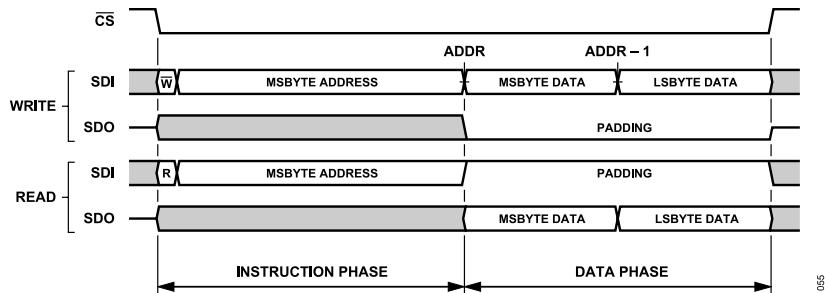
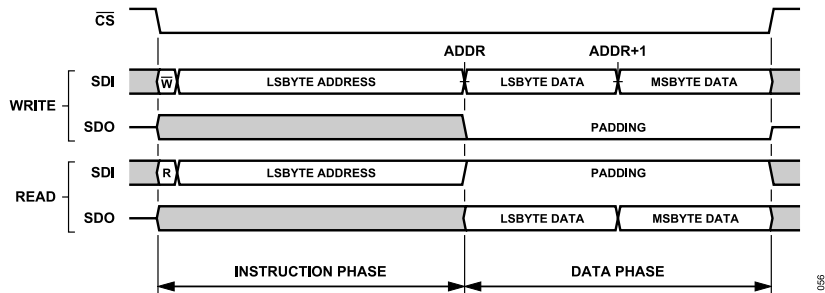

Figure 57. Single Instruction Format, ADDR\_ASCENSION = 0 (Descend), STRICT\_REGISTER\_ACCESS = 1 (Enabled)
Figure 58. Single Instruction Format, ADDR\_ASCENSION = 1 (Increment), STRICT\_REGISTER\_ACCESS = 1 (Enabled)
As indicated in Figure 57, the address counter, by default, automatically decrements (ADDR\_ASCENSION = 0) such that the most significant byte of the multibyte register is accessed first, followed
As an extension of this concept, when STRICT\_REGISTER\_ACCESS = 1, any SPI frame that accesses a multibyte register as the first entity in the data transfer must correctly set the starting address in the instruction word to correspond to the ADDR\_ASCENSION selection. In the case that the address counter automatically decrements (ADDR\_ASCENSION = 0), the starting address is assigned to the register address for the least significant byte of that multibyte register, and conversely, if configured to increment automatically, the starting address must be set to the register address for the most significant byte. As a result of the change to ADDR\_ASCENSION from automatic address decrement (0) to automatic increment (1), Figure 54 and Figure 55 will change as illustrated in Figure 57 and Figure 58 to accommodate the changes in data phase byte order and instruction phase multibyte register start address.